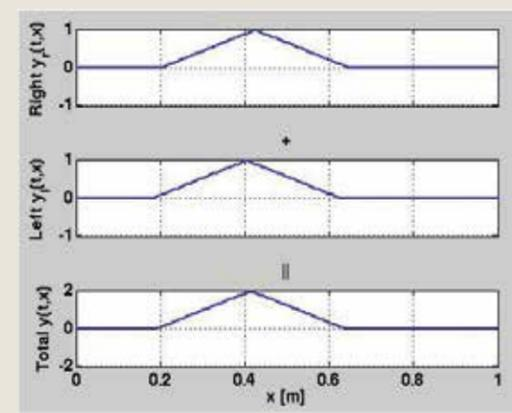

Figure 3
**PHYSICAL MODELLING** is a method in which the waveform of the sound to be generated is computed by using a mathematical model, being a set of equations and algorithms to simulate a physical source of sound. For an organ pipe this would mean that air pressure waves that travel through the pipe are simulated. In figure 3 a simple example is given how this works. Imagine for the top graph that the wave travelling to the right, being reflected and mirrored, as displayed in the middle graph, travelling back to the left. The bottom graph is the summation which represents the actual result.